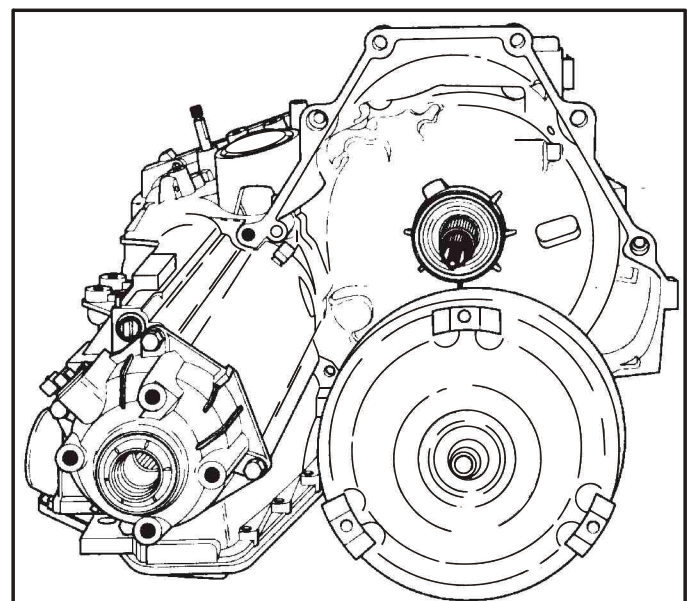

Figure 215
43. Install the torque converter into the transaxle, as shown in Figure 215, after pouring about two quarts of transmission fluid into converter.